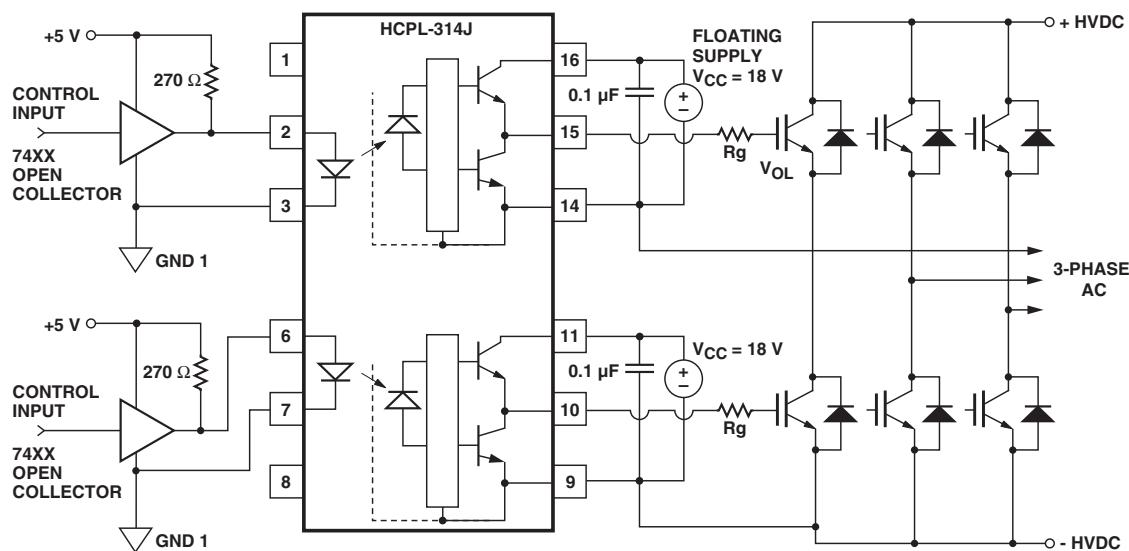
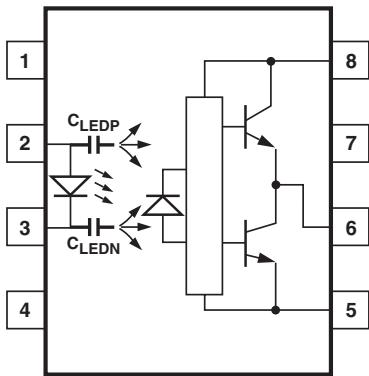
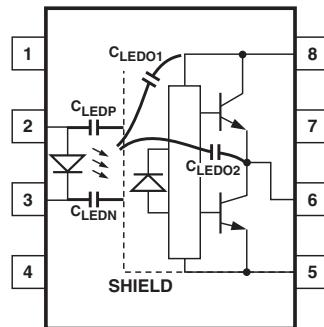
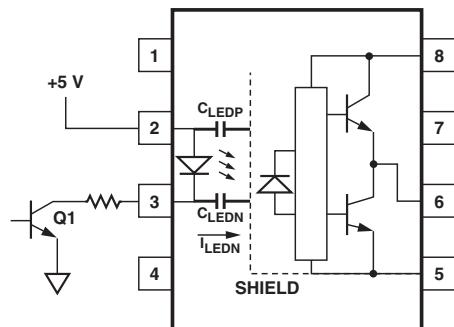

Figure 19. Recommended LED Drive and Application Circuit for HCPL-314J.
Figure 21. Optocoupler Input to Output Capacitance Model for Unshielded Optocouplers.
Figure 22. Optocoupler Input to Output Capacitance Model for Shielded Optocouplers.
Figure 24. Not Recommended Open Collector Drive Circuit.
To keep the IGBT firmly off, the HCPL-314J has a very low maximum  $V_{OL}$  specification of 1.0 V. Minimizing  $R_g$  and the lead inductance from the HCPL-314J to the IGBT gate and emitter (possibly by mounting the HCPL-314J on a small PC board directly above the IGBT) can eliminate the need for negative IGBT gate drive in many applications as shown in Figure 19. Care should be taken with such a PC board design to avoid routing the IGBT collector or emitter traces close to the HCPL-314J input as this can result in unwanted coupling of transient signals into
the input of HCPL-314J and degrade performance. (If the IGBT drain must be routed near the HCPL-314J input, then the LED should be reverse biased when in the off state, to prevent the transient signals coupled from the IGBT drain from turning on the HCPL-314J.) An external clamp diode may be connected between pins 14 & 15 and pins 9 & 10 (as shown in Figure 19) for the protection of HCPL-314J in the case of IGBTs switching inductive load.
**Step 1:** Calculate  $R_g$  minimum from the  $I_{OL}$  peak specification. The IGBT and  $R_g$  in Figure 24 can be analyzed as a simple RC circuit with a voltage supplied by the HCPL-314J.
where  $K_{ICC} \bullet Q_g \bullet f$  is the increase in  $I_{CC}$  due to switching and  $K_{ICC}$  is a constant of 0.001 mA/(nC\*kHz). For the circuit in Figure 19 with  $I_F$  (worst case) = 10 mA,  $R_g$  = 32  $\Omega$ , Max Duty Cycle = 80%,  $Q_g$  = 100 nC,  $f$  = 20 kHz and  $T_{MAX}$  = 85°C:
Without a detector shield, the dominant cause of optocoupler CMR failure is capacitive coupling from the input side of the optocoupler, through the package, to the detector IC as shown in Figure 21. The HCPL-314J improves CMR performance by using a detector IC with an optically transparent Faraday shield, which diverts the capacitively coupled current away from the sensitive IC circuitry. However, this shield does not eliminate the capacitive coupling between the LED and optocoupler pins 5-8 as shown in Figure 22. This capacitive coupling causes perturbations in the LED current during common mode transients and becomes the major source of CMR failures for a shielded optocoupler. The main design objective of a high CMR LED drive circuit becomes keeping the LED in the proper state (on or off) during common mode transients. For example, the recommended application circuit (Figure 19), can achieve 10 kV/ $\mu$ s CMR while minimizing component complexity.
The open collector drive circuit, shown in Figure 24, can not keep the LED off during a  $+dV_{CM}/dt$  transient, since all the current flowing through CLEDN must be supplied by the LED, and it is not recommended for applications requiring ultra high  $CMR_1$  performance. The alternative drive circuit which like the recommended application circuit (Figure 19), does achieve ultra high CMR performance by shunting the LED in the off state.